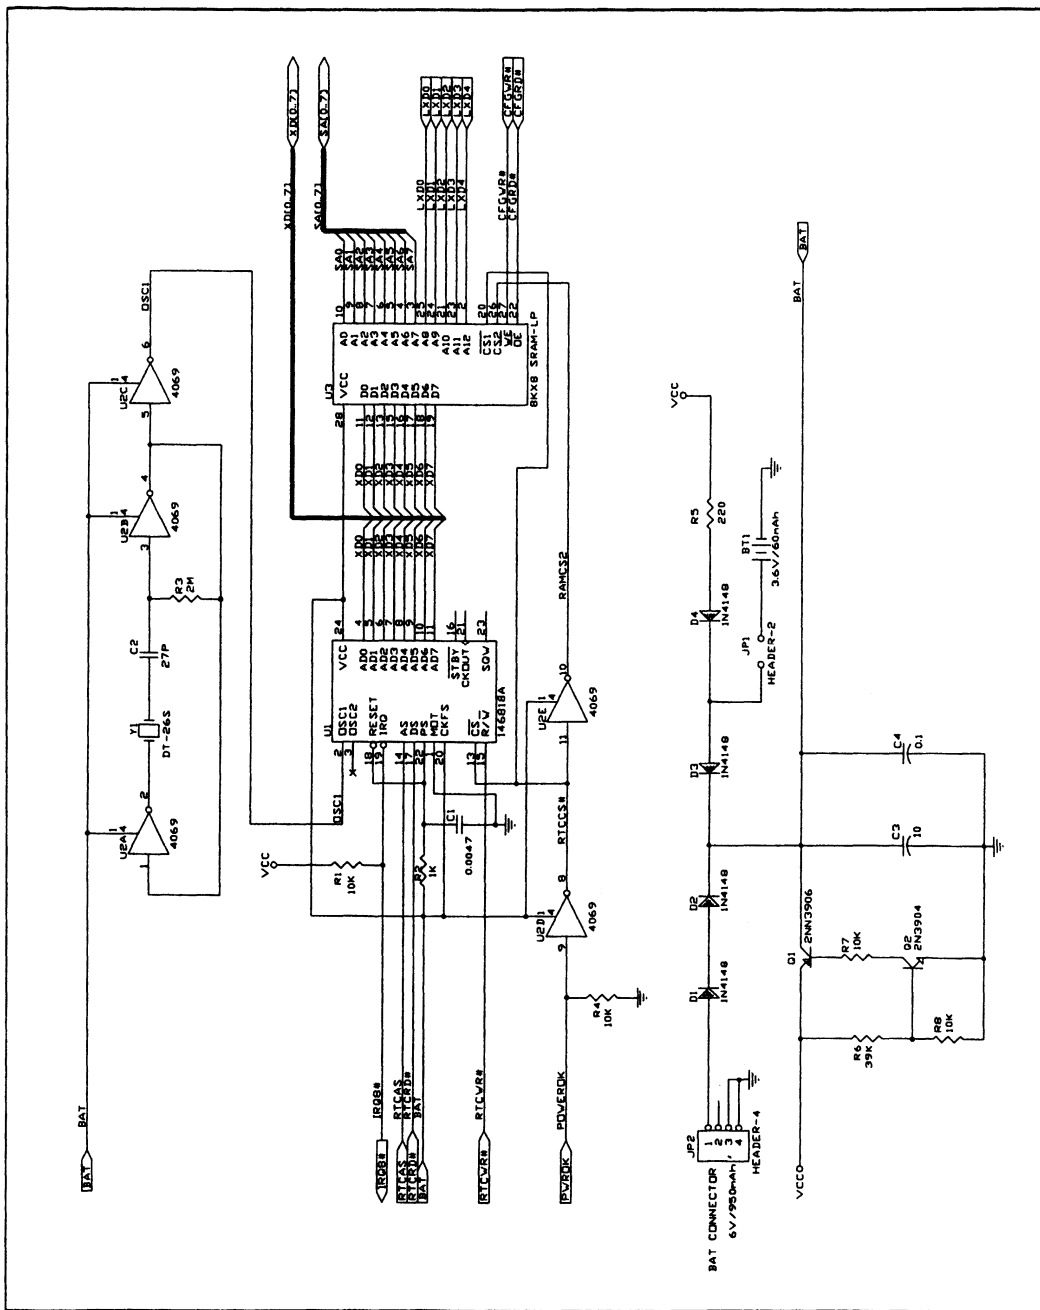

Figure 5. MC146818A w/ External SRAM EISA or MCA Example
**Table 6. MC146818A w/ External SRAM Parts List (Figure 5)**